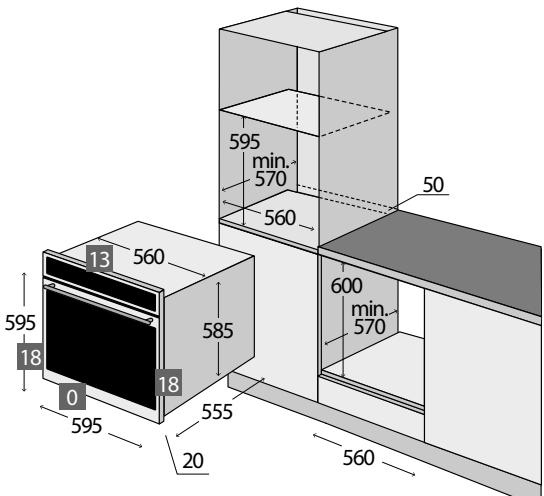

Fig. 2
- The unit should be installed in standardised kitchen furniture designed for built-in appliances or in properly adapted furniture of dimensions according to Fig. 2.
- The appliance may be located either under a kitchen cabinet or in a stand-alone cabinet (Fig. 2).
2. For the sake of efficient air circulation the unit has to be located according to the dimensions on Fig. 2 and the design of the cabinet must enable air flow into its bottom part. The gap behind the rear wall of the built-in appliance must be at least 50 mm.